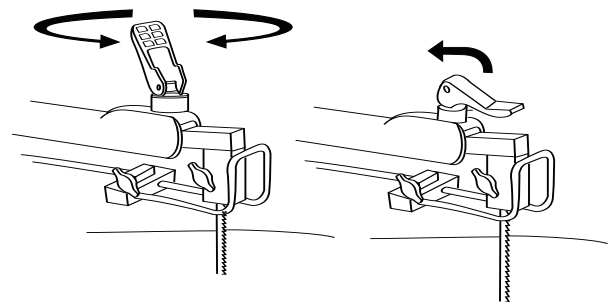

Figure 11. Quick Release Tension Lever
1. Release blade tension by lifting up the Quick Release Tension Lever and turning counterclockwise (Figure 11).
NOTE: In order to cut, and avoid uncontrollable lifting of the workpiece, the teeth of the blade used on the Scroll Station should always point downward as shown in (Figure 11) when installed.
1. Release blade tension by lifting up the Quick Release Tension Lever (Figure 11) and turn counterclockwise.
To tension blade, move Quick Release Tension Lever to “down” position. As the lever is lowered, tension will be applied to the blade (Figure 11).